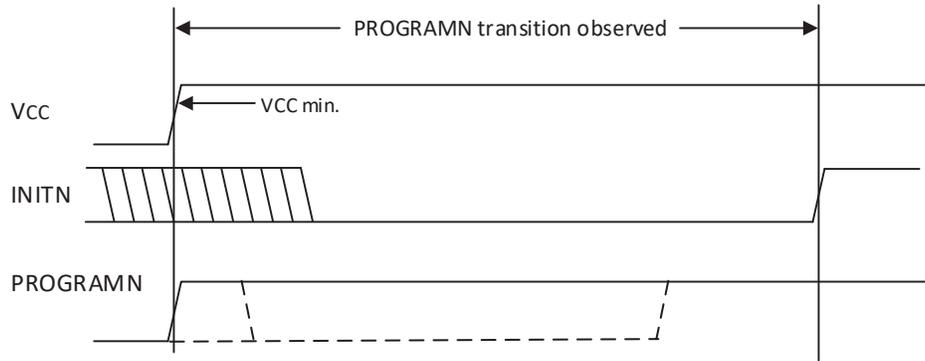

Figure 4.5. Period PROGRAMN is Always Observed
- PROGRAMN is active during power-up, even when it is reserved as a general-purpose I/O. Do not allow any input signal attached to PROGRAMN to transition from high-to-low at a frequency greater than the VCC (min) to INITN rising edge time period. High to low PROGRAMN assertions more frequently prevent the MachXO3D device from configuring, causing the FPGA to remain in a continuous RESET condition. See Figure 4.5.